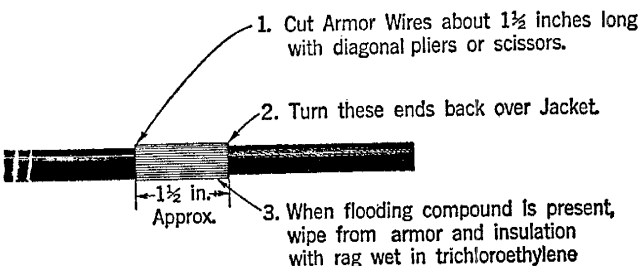

Fig. 2
2.02 Free the armor wires from the insulation as shown in Fig. 2.